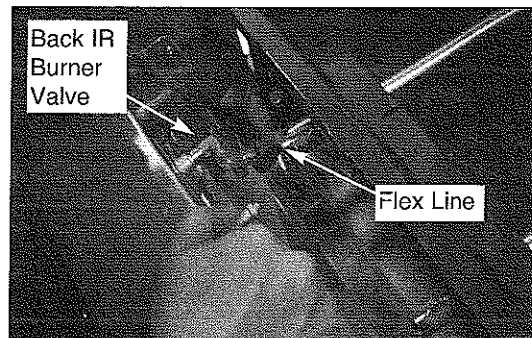

Fig 18
20. Attach the flex line to the rear IR burner valve by hand, then tighten with a 3/4" wrench. (See Fig. 18)